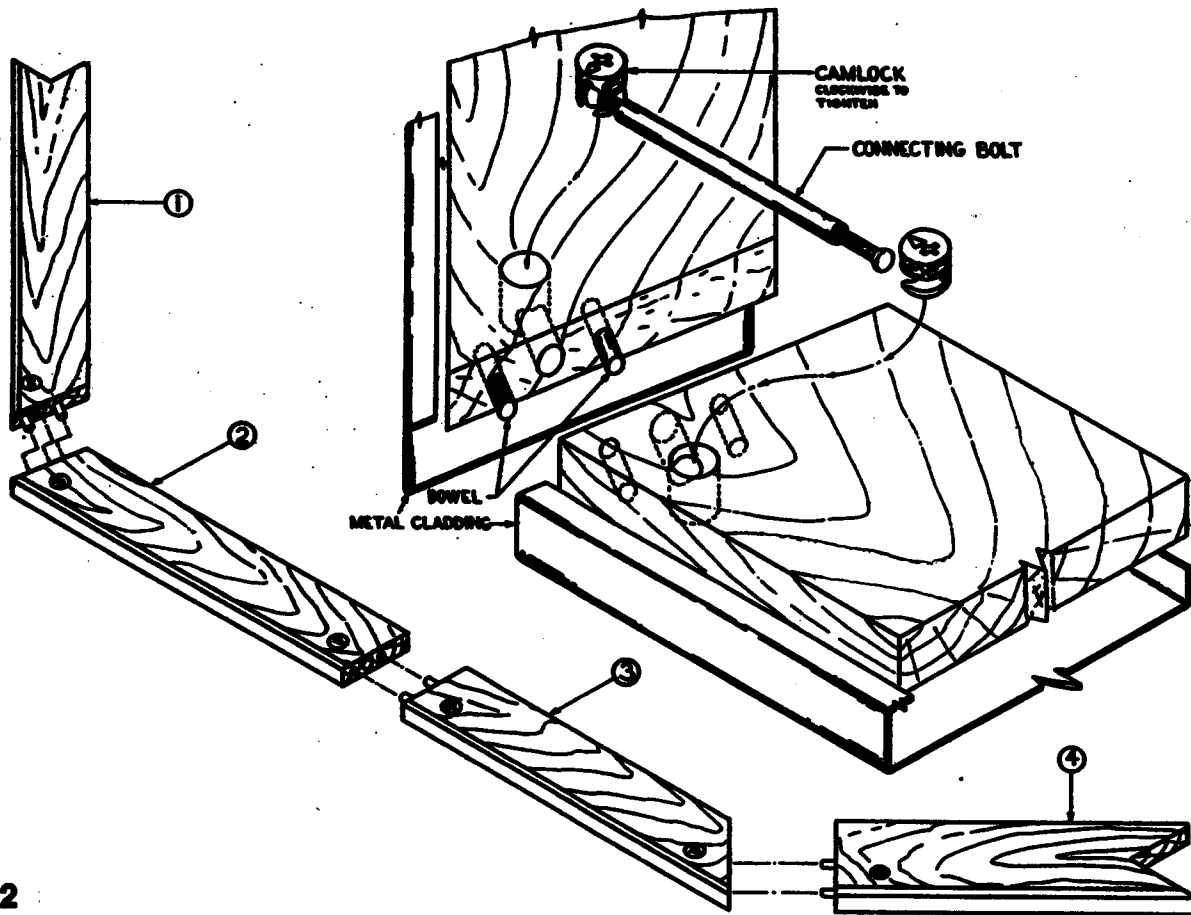

FIGURE 2
- 4. ASSEMBLE THE SOFFIT PIECES:** Lay out the soffit pieces, metal-clad side down, as they are numbered. Don't join them together yet. Insert the cam-locks into their holes, making sure that the arrows are lined up with the connecting-bolt entry holes [see **FIGURE 2**].